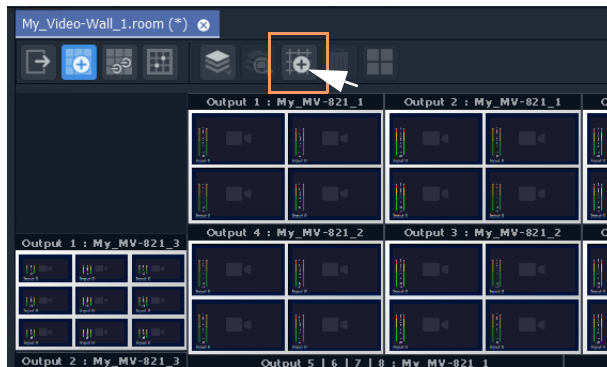

Fig. 16-32: Freehand Positioning Icon
- 1 Click on the **Freehand Positioning** icon (see Figure 16-32).